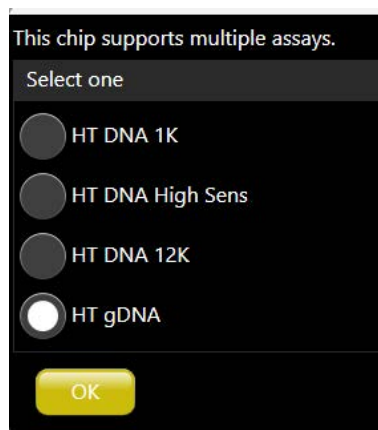
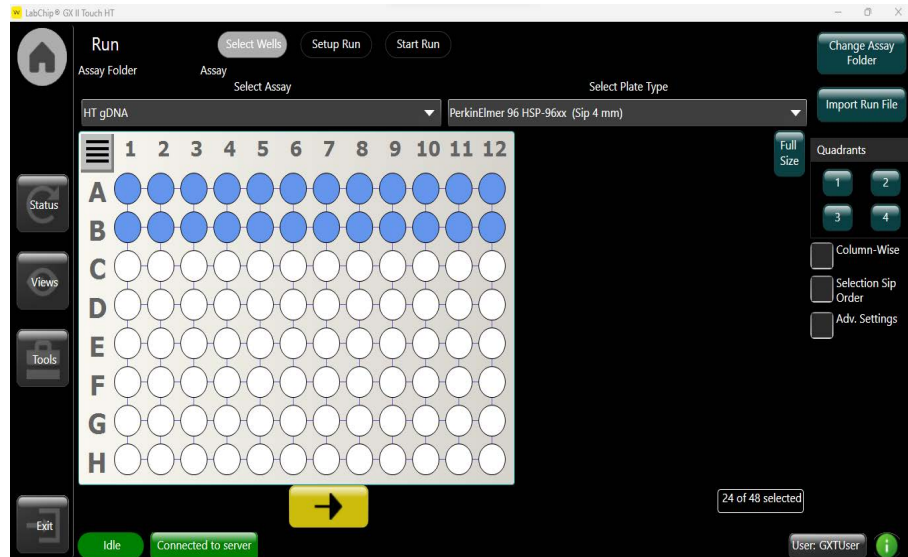

Figure 8. Assay Choice menu.
Figure 10. Selecting wells.
- 6 The *Assay Choice* window will appear (Figure 8). Touch the desired assay and then touch *OK*.
- 2 Select the appropriate assay type (see Figure 8), plate name, well pattern, and whether to read wells in columns or rows. Select number of times each well is sampled under *Adv. Settings* (Figure 10). Touch the *green arrow* button.